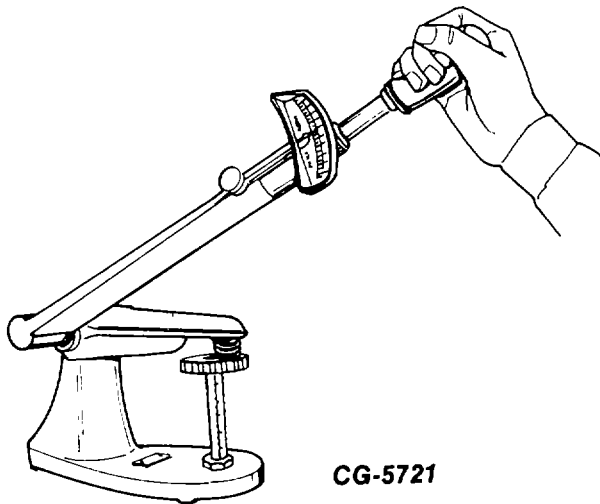

Figure 33. - Testing Valve Springs
- b. Insert valve spring into spring test loader, as shown in Fig. 33.